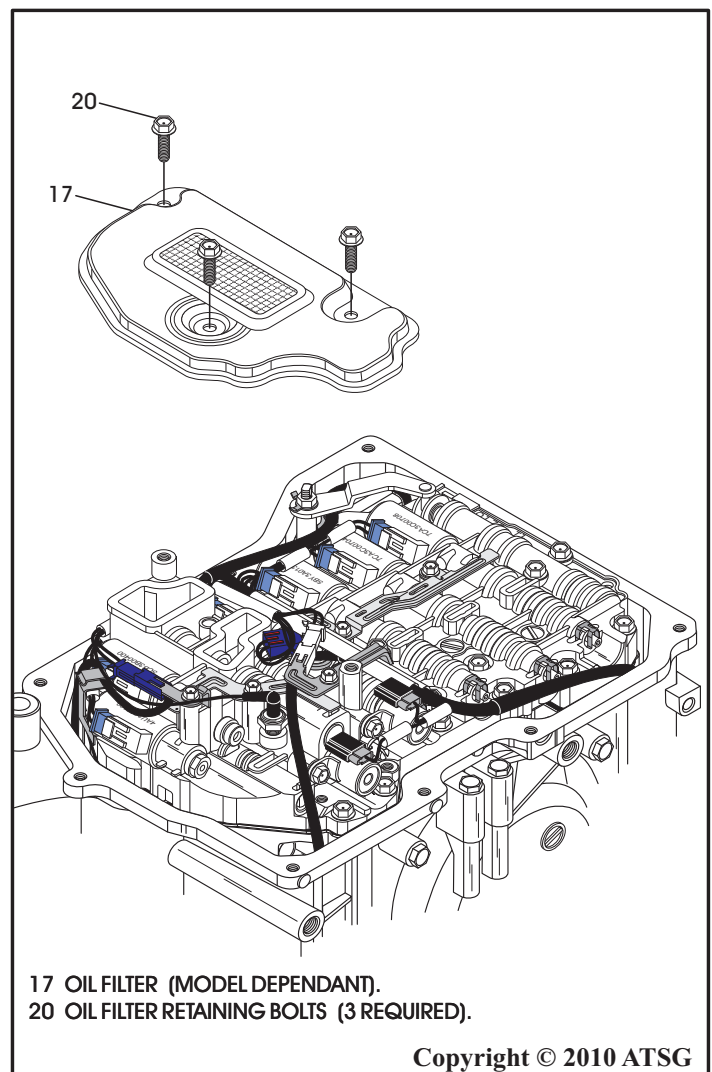

Figure 53
10. Remove the three oil filter retaining bolts and remove the oil filter, as shown in Figure 53.